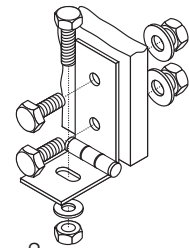

Figure 2
**HINGES** — The hinges should be mounted so the guard sits flush with the mounting surface. (See Figure 2.) The hinges on Size 20 (quantity, 2) should be centered with the guard body partial trim lines and flush with the bottom edge, as shown. (See Figure 3.) The hinges on Size 30/40/50 (qty. 4) should be aligned with the inside edge of the partial trim lines and flush with the bottom edge, as shown. (See Figure 3.) Once in position, use the hinge as a template for drilling the fastener holes. Install the hex head bolt through the hinge and use a fender washer and hex head lock nut on the backside. Tighten to 12 Nm/108 lb-in for Size 20 and 20 Nm/180 lb-in. for Size 30/40/50. Hinges can be reverse mounted, if required.